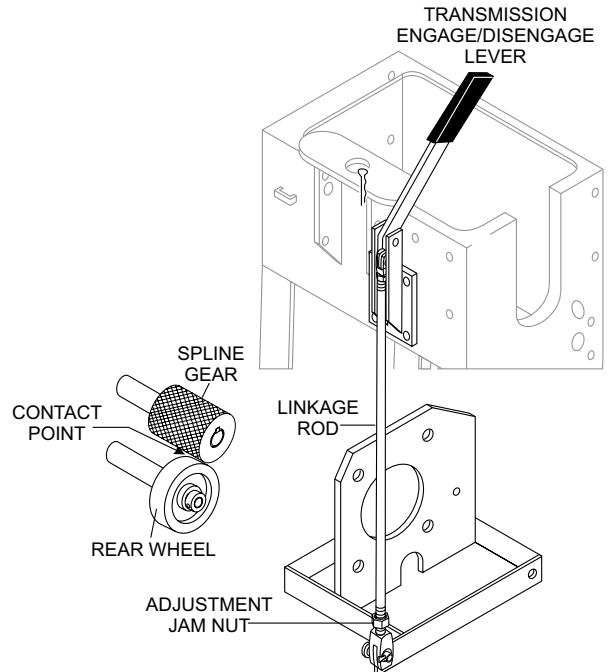

Figure 50. Linkage Adjustment
- Loosen the linkage adjustment nut and slightly lengthen the linkage rod (Figure 50).